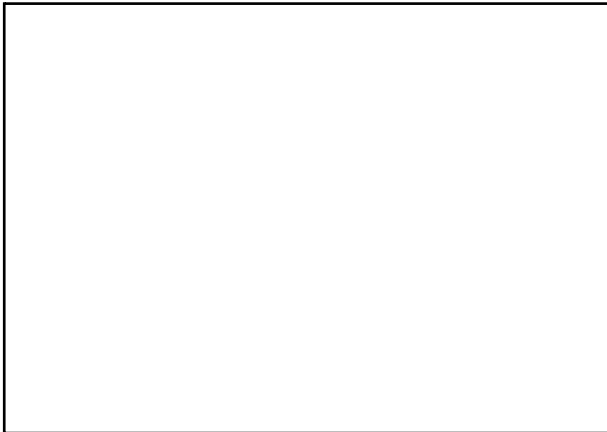

Fig. 4
- Drain off engine oil at the drain plug (Fig. 4), using the oil-drainage hose. See "Draining hose for oil changes".